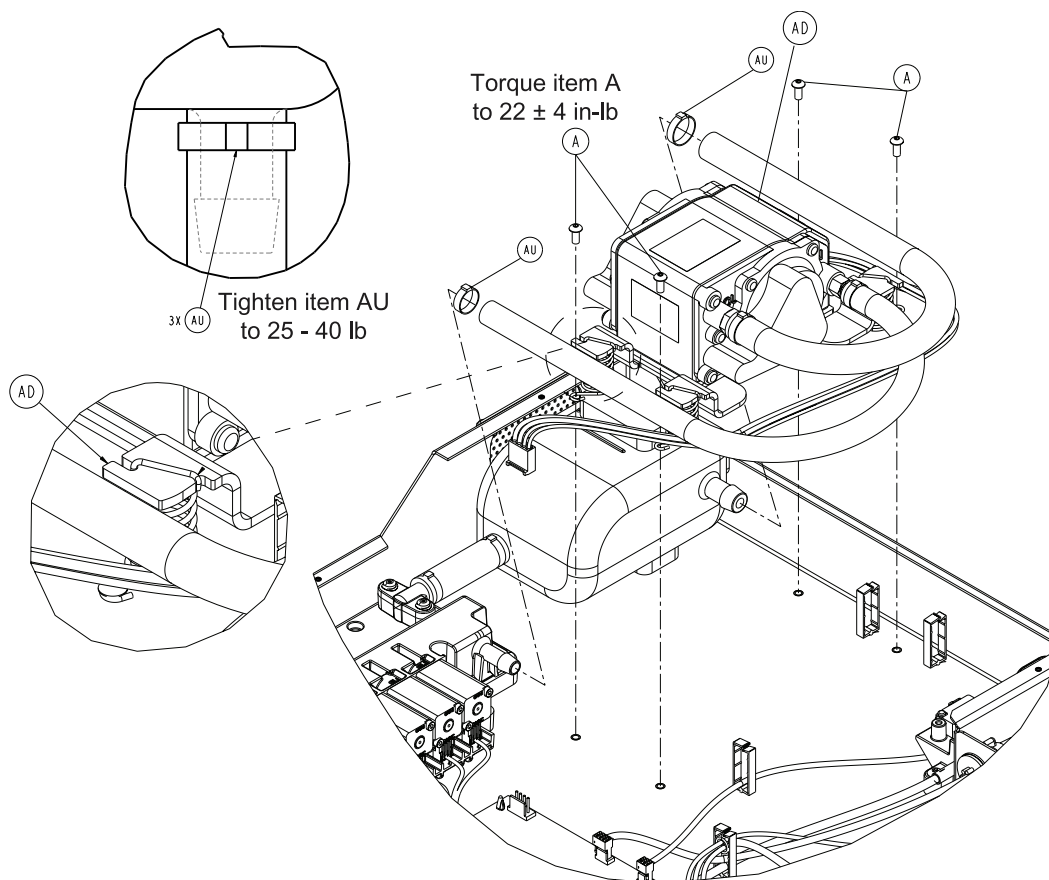

Figure 17 – Pump assembly
4. Using diagonal pliers, cut the cable ties where the inlet hose connects to the manifold (AU) and the exhaust hose connects to the resonator (Figure 17). Do not cut the manifold barb.